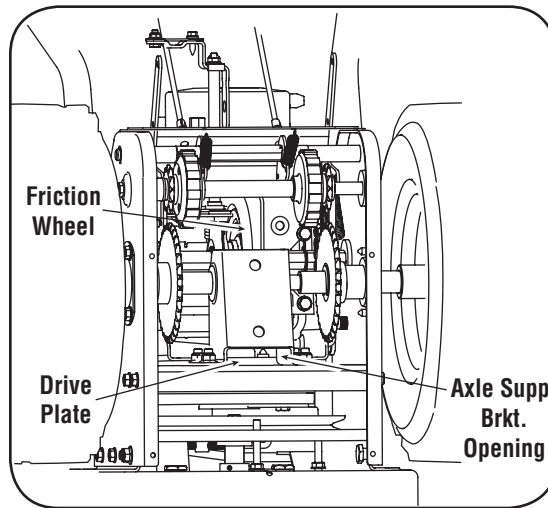

Figure 5-4
2. Locate the opening between the axle support bracket and the front frame support (See Figure 5-4). Looking through this opening, with the drive control released, there must be 1/8" clearance between the friction wheel and the drive plate in all positions of the shift lever.
3. With the drive control engaged, the friction wheel must contact the drive plate. See Figure 5-4.